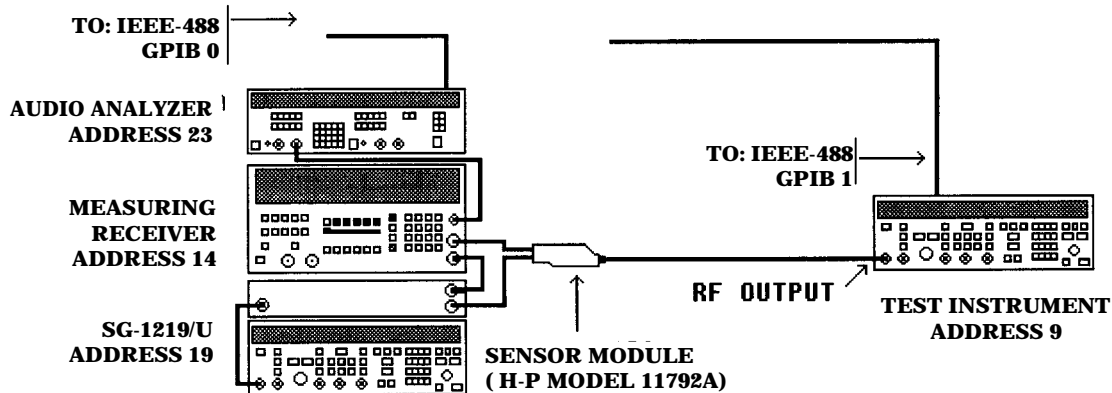

Figure 2. Frequency resolution hookup.
(1) On the local oscillator rear panel disconnect the jumper between **FREQ STANDARD INT/EXT** connectors and set the **INT/EXT** switch to **EXT**.
(2) Connect the local oscillator **10 MHz OUT** to the measuring receiver **TIME BASE 10 MHz INPUT**.
(3) Connect TI **10 MHz OUT** (rear panel) to the local oscillator **FREQ STANDARD EXT** connector.
(4) Finish connection as shown in figure 2.